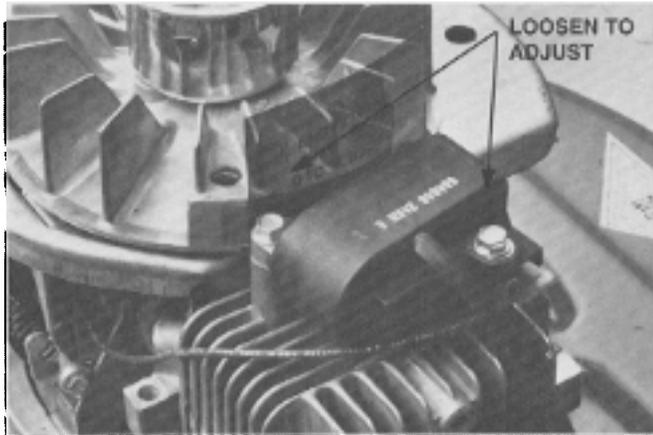

Figure 49
1. Rotate flywheel until the magnets are directly adjacent to the CD Pack as shown in **Figure 49**.